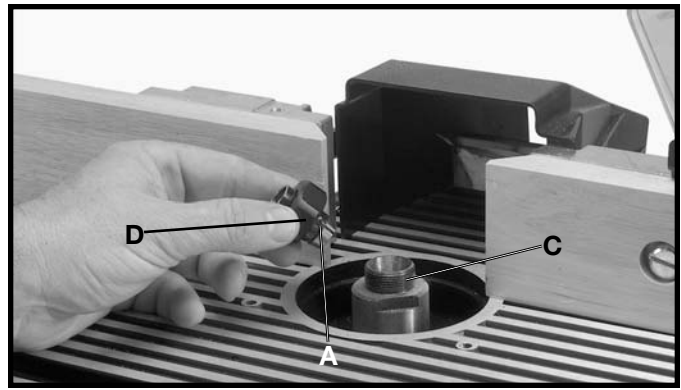
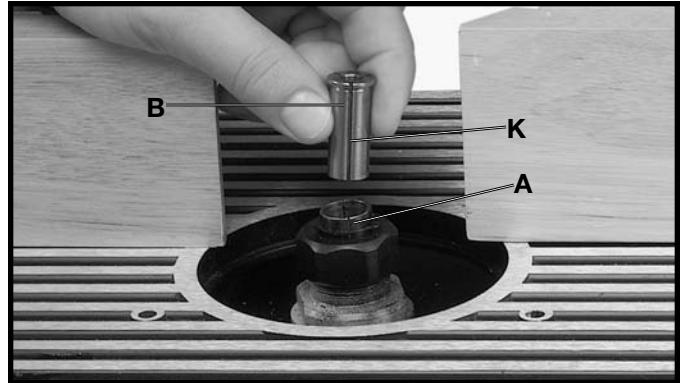

Fig. 27
Fig. 28
3. This machine is supplied with a 1/2 inch collet (A) Fig. 27, that accepts 1/2 inch shank router bits. A 1/4 inch adapter sleeve (B) Fig. 28, is also furnished that allows you to use 1/4 inch shank router bits.
4. Insert 1/2 inch collet (A) Fig. 27, into spindle assembly (C) and hand tighten nut (D). If you are using 1/4 inch shank router bits, insert 1/4 inch adapter sleeve (B) Fig. 28, into 1/2 inch collet (A), making certain slot (K) in adapter sleeve (B) is aligned with the slot in 1/2 inch collet (A). **NOTE:** This is important for maximum clamping of the router bit in the spindle.